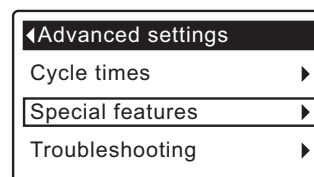

FIG. 61
3. Press the SELECT (O) button to display the Advanced settings menu (See Figure 61).